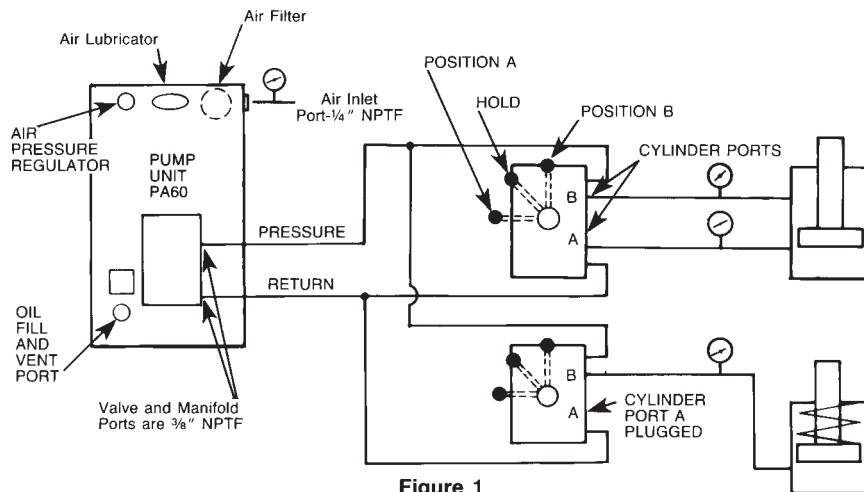

Figure 1
1. Remove the male fitting from the air filter and install a tee adapter, with gauge, between the hose and air filter. Refer to Figures 1 and 2.
1. Install a tee adapter, with gauge, between the valve and the cylinder. Refer to Figures 1 and 2.